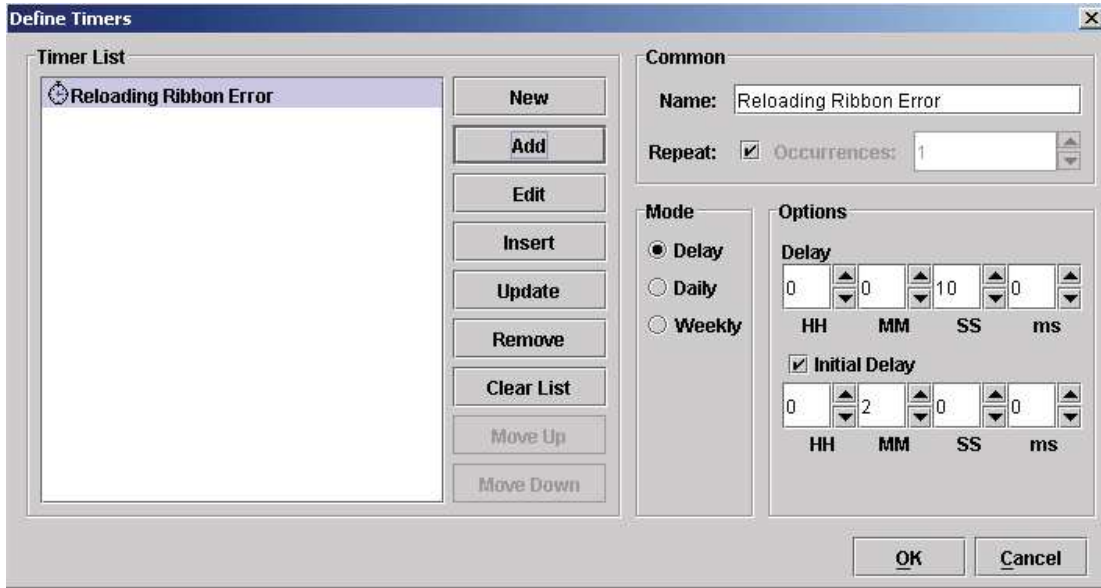

Figure 218 Setting a Delay Timer
6. Click **Add**. The Ribbon Reloading Error delay timer is added to the Timer list. See Figure 218.